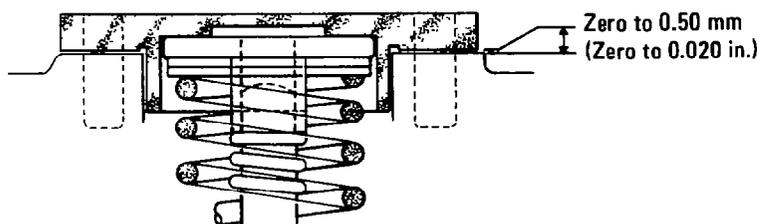

Fig. 133 — Checking Governor Outer Spring Clearance
- r. Remove the gap gauge and install the outer spring (item 78) and shims (item 76). Install the gap gauge and check that the gap between the flange surface of the gauge and the governor housing is between zero and 0.50 mm (zero to 0.020 in.) see fig. 133. Replace the shims with thicker or thinner shims as necessary to obtain the correct dimension.